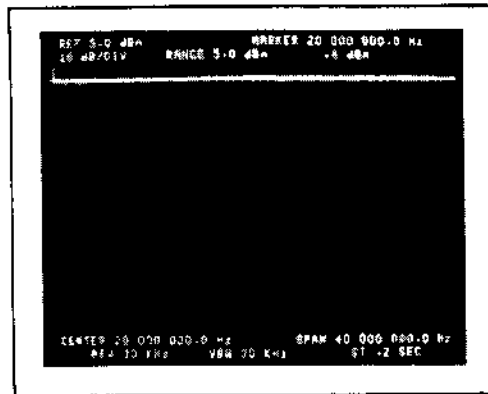

Figure 11-P-15. Correctly Autoranged Displayed
- X. Set the RBW to 30kHz. Rotate the Tracking Generator AMPLITUDE control fully clockwise (0dBm). Connect the Tracking Generator output to the front panel Terminated (50Ω) input. Did the 3585A automatically uprange to 0dBm (see Figure 11-P-15)?